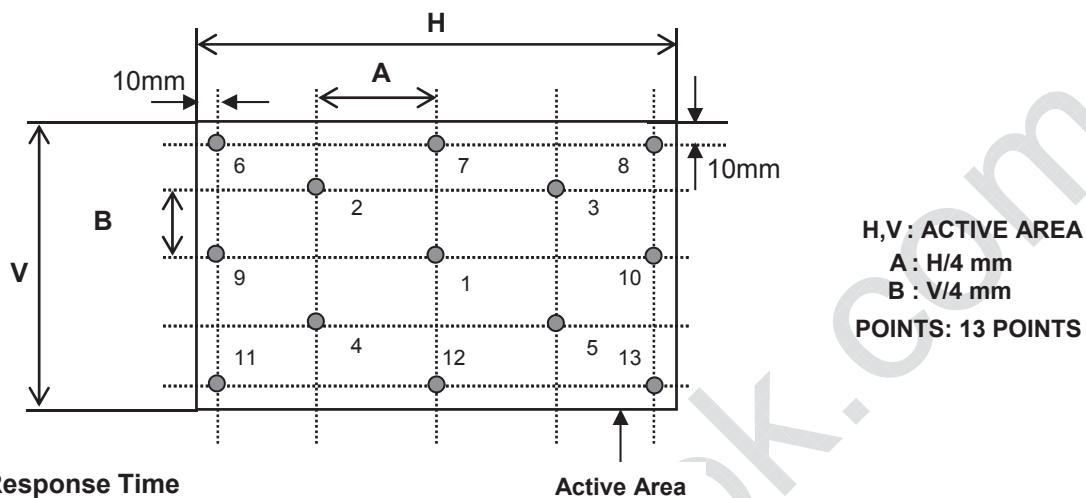

FIG. 3 Response Time
4. Response time is the time required for the display to transition from white to black (rise time, Tr) and from black to white (falling time, Tf). For additional information see FIG 3.